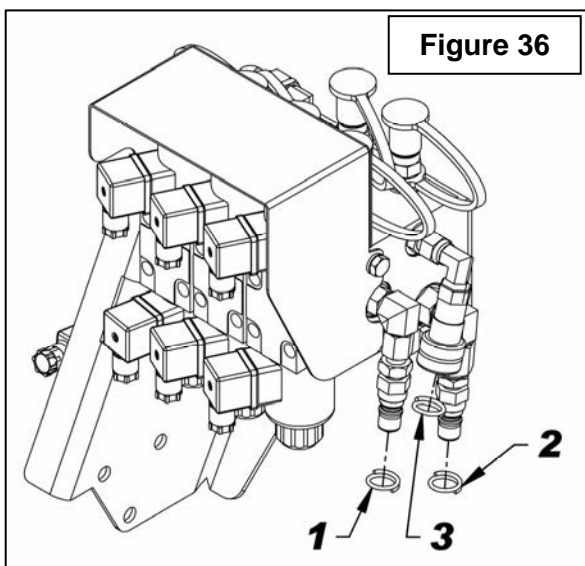

Figure 36
13. **Figure 36:** Install the identification rings; green (item 1), blue (item 2) and red (item 3) on the hydraulic block in the exact positions illustrated.